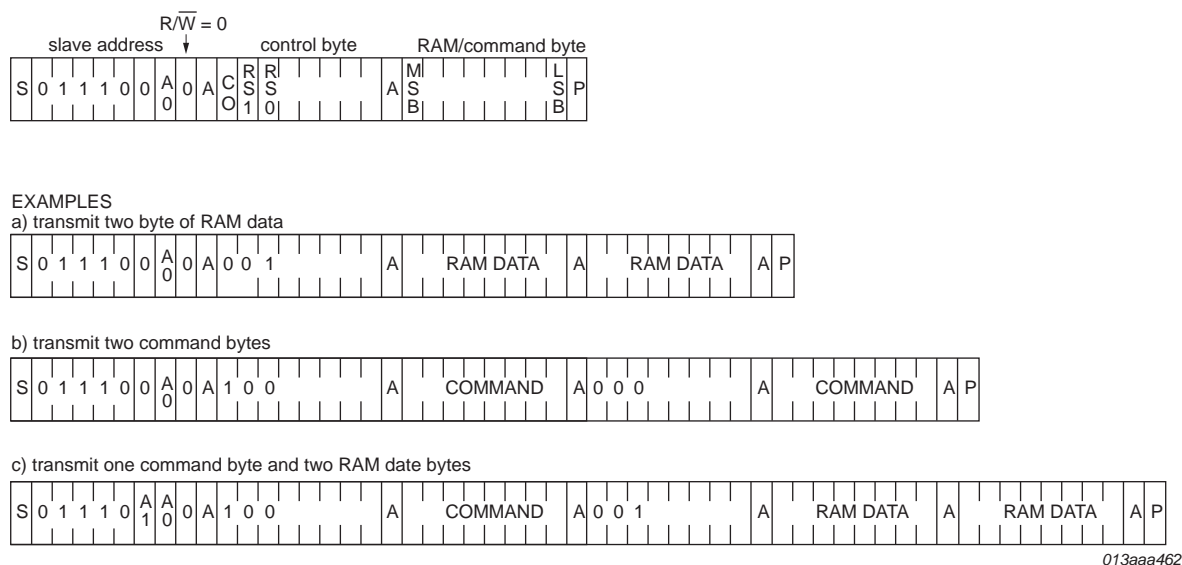

Fig 36. I²C-bus protocol write mode
The I²C-bus protocol is shown in Figure 36. The sequence is initiated with a START condition (S) from the I²C-bus master which is followed by one of the two PCA8536 slave addresses available. All PCA8536 with the corresponding A0 level acknowledge in parallel to the slave address, but any PCA8536 with the alternative A0 level ignore the whole I²C-bus transfer.